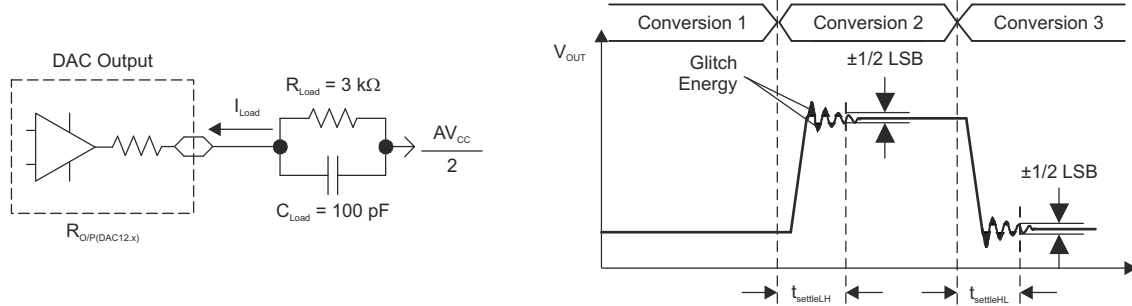
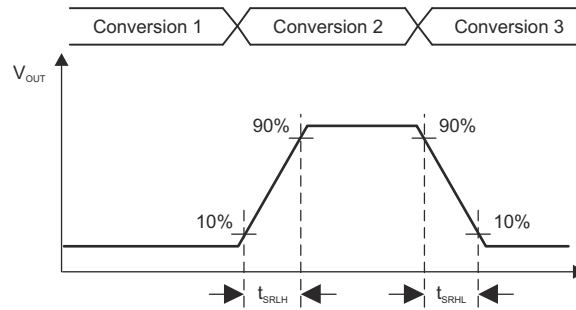

图 8-21. Settling Time and Glitch Energy Testing
图 8-22. Slew Rate Testing
VREF = VCC, DAC12IR = 1 (see 图 8-21 and 图 8-22), over recommended ranges of supply voltage and operating free-air temperature (unless otherwise noted)
- (1) RLoad and CLoad connected to AVSS (not AVCC/2) in 图 8-21.
- (2) Slew rate applies to output voltage steps ≥ 200 mV.